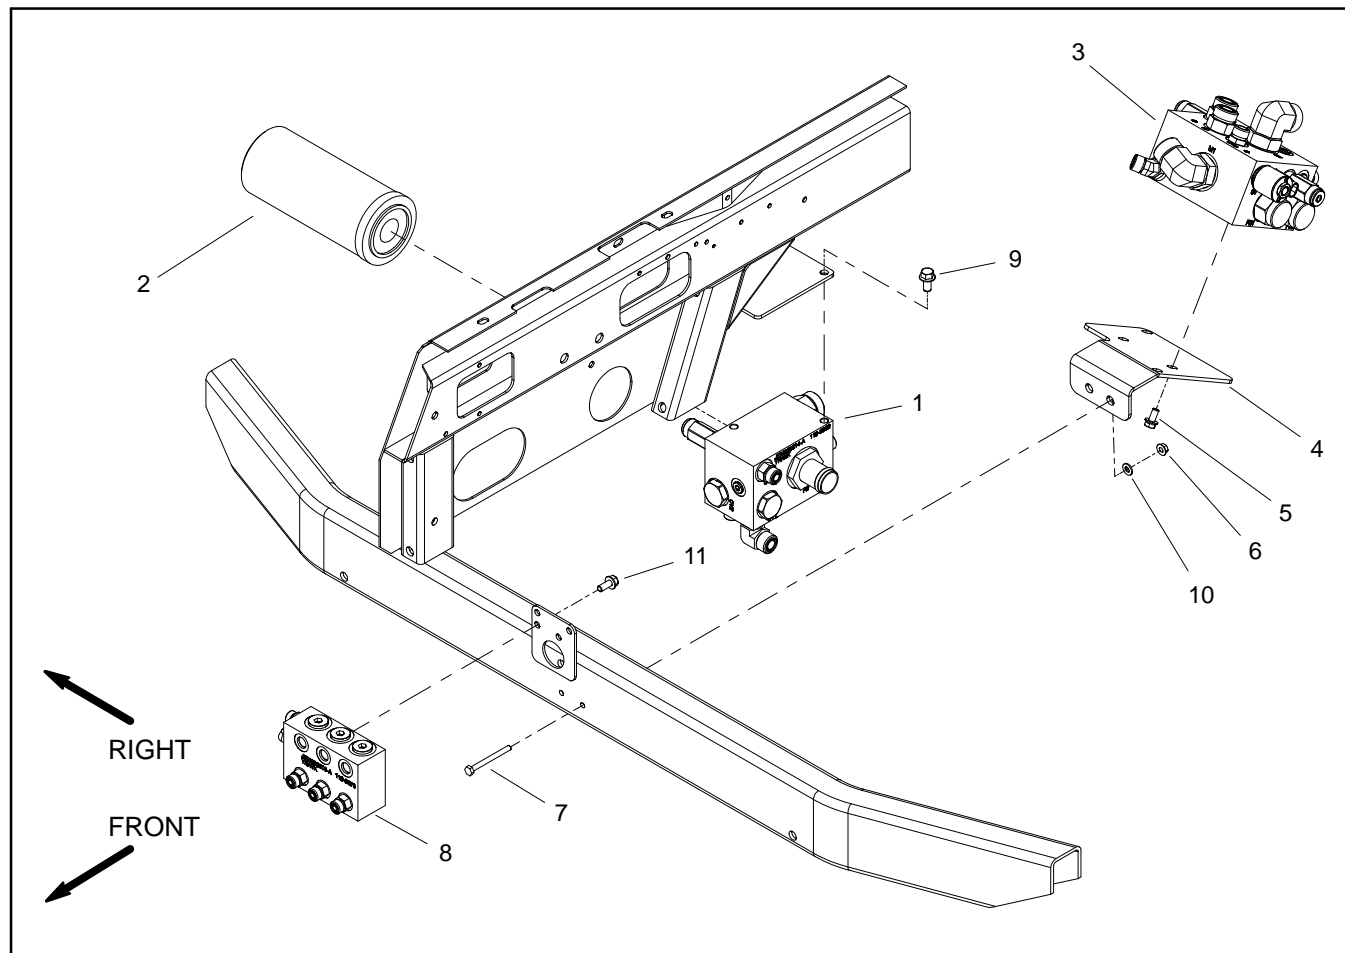

Figure 59
## Removal (Fig. 59)
5. Remove hydraulic manifold from the frame using Figure 59 as guide.
## Installation (Fig. 59)
2. Install hydraulic manifold to the frame using Figure 59 as guide.